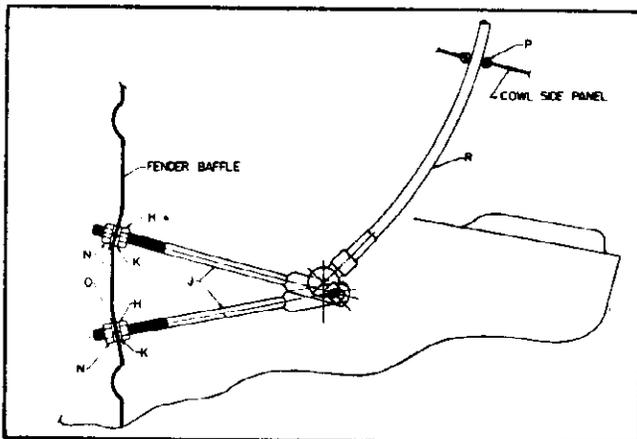

Figure 8
7. Place nuts "H" and lockwashers "K" on braces "J" and place in 5/16 inch holes in fender baffle. (See Figure 8.)
8. Place braces "J" to stud on antenna mast base with washer "M" and nut "L," place washers "O," nuts "N" and tighten securely. (See Figure 8.)